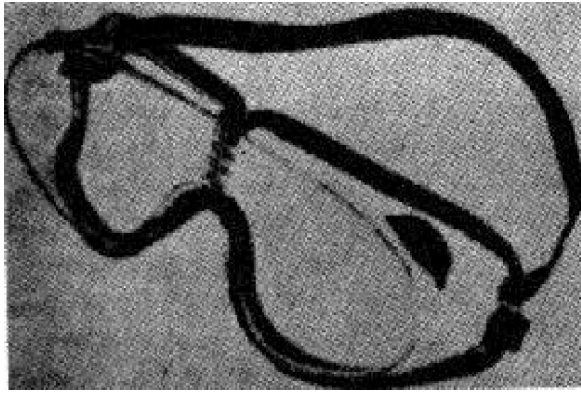

FIGURE 3-5
3.1.2.4 Eye Protection. Safety goggles must be worn where there is any possibility of dust, fumes or solvents touching the eyes as may occur when blasting, sanding, or spraying. They must be kept clean and readily available. They should fit well, contain lenses of unbreakable glass or plastic, and allow adequate peripheral as well as straight ahead vision. (See Figures 3-5 and 3-6.)